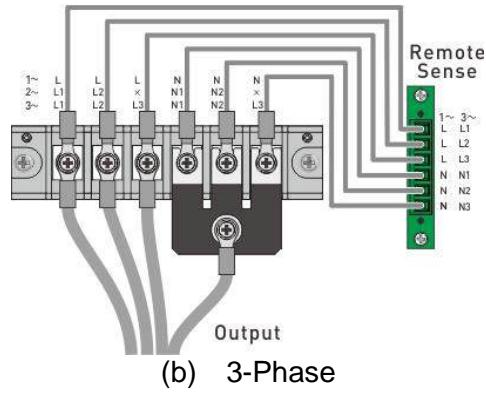

Figure 2-2 Connecting Output and Local Voltage Sense
The output terminal socket is located at the rear side of the Regenerative Grid Simulator. The load is connected to the output terminal. For safety, the AC input/output cable must be secured with an appropriate tool and the casing has to be tightened up securely. The cable diameter connected to the load has to be large enough so that it will not over heat if the output is over-current, see Figure 2-2.
2. This Regenerative Grid Simulator can output 1-/3-phase. When set to 1-phase mode, the short-circuit copper bar must be used to short-circuit the L1/L2/L3 output. The UUT L/N points are connected to the L1/L2/L3 and NEUTRAL short circuit copper bar respectively as shown in Figure 2-2.